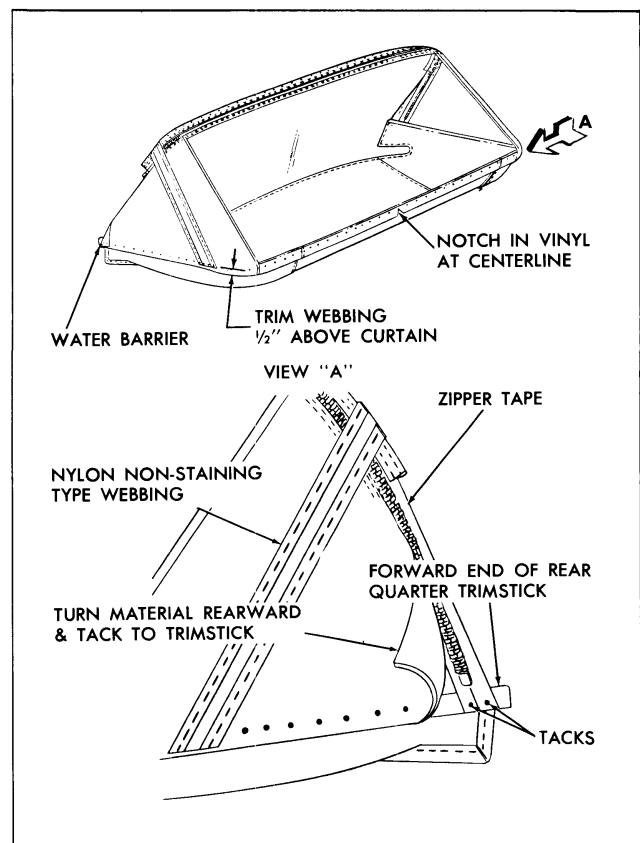

Fig. 21-24 Back Curtain Installation
**NOTE:** Notch in back curtain vinyl at lower edge indicates centerline of back curtain assembly (Fig. 21-24). In addition, back curtain lower edge should extend approximately 1/2" below lower edge of trim sticks.
8. Tack curtain to rear and rear quarter trim sticks. On right side, tack zipper tape to forward edge of rear quarter trim stick (see A in direction of arrow in Fig. 21-24).
9. Tack remainder of back curtain material to rear quarter trim stick, turning forward edge of material rearward to form a water barrier (Fig. 21-24).
11. Tack nylon webbing to rear trim stick. Forward edge of webbing should be even with edge of rear trim stick. New webbing may be cut from a piece of non-staining type webbing 2" x 19". Excess webbing should be trimmed off at rear trim stick, 1/2" above back curtain lower edge (Fig. 21-24).